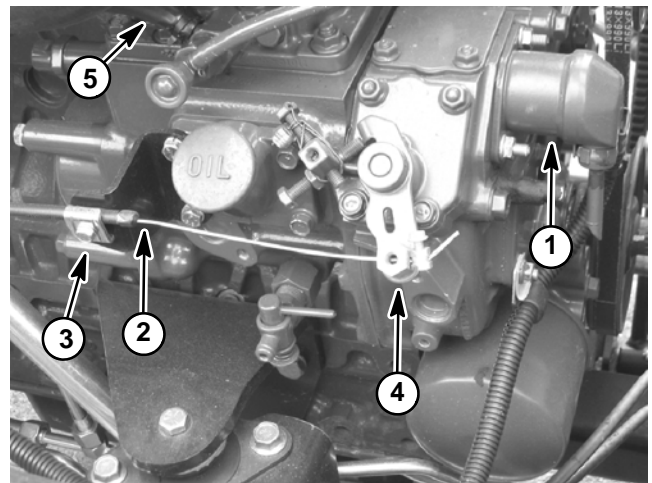
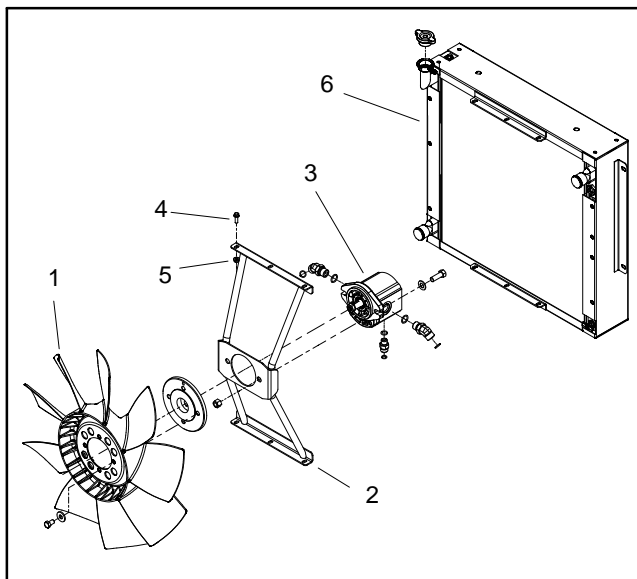

Figure 9
Figure 11
- A. The engine run solenoid (Fig. 9).
8. Disconnect fuel supply hose from injection pump (Fig. 9). Cap fuel hose and injector pump fuel inlet to prevent contamination.
9. Remove throttle cable from engine (Fig. 9):
11. Remove fan motor and fan assembly (Fig. 11).
C. Remove six (6) cap screws and flange nuts that secure fan motor bracket to radiator.
8. Install fan motor and fan assembly (Fig. 11).
- B. Secure fan motor bracket to radiator with six (6) cap screws and flange nuts.
10. Connect throttle cable to engine (Fig. 9):
11. Remove caps from fuel hose and injector pump fuel inlet that were placed during engine removal to prevent contamination. Connect fuel supply hose to injection pump (Fig. 9). Secure hose with hose clamp.